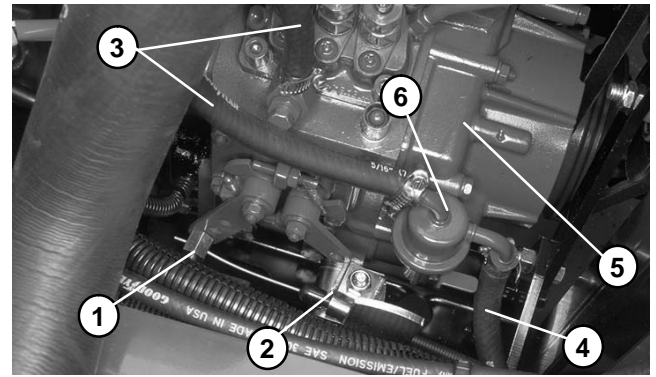

Figure 31
9. Disconnect throttle cable from the cable clamp and swivel on the speed control lever. Disconnect fuel hoses from the water/fuel separator at the injector and fuel pumps. Disconnect fuel hose from the fuel tank at the fuel pump (Fig. 31).
7. Connect throttle cable to the cable clamp and swivel on the speed control lever. Connect both fuel hoses from the water/fuel separator to the injector and fuel pumps. Connect fuel hose from the fuel tank to the fuel pump (Fig. 31).